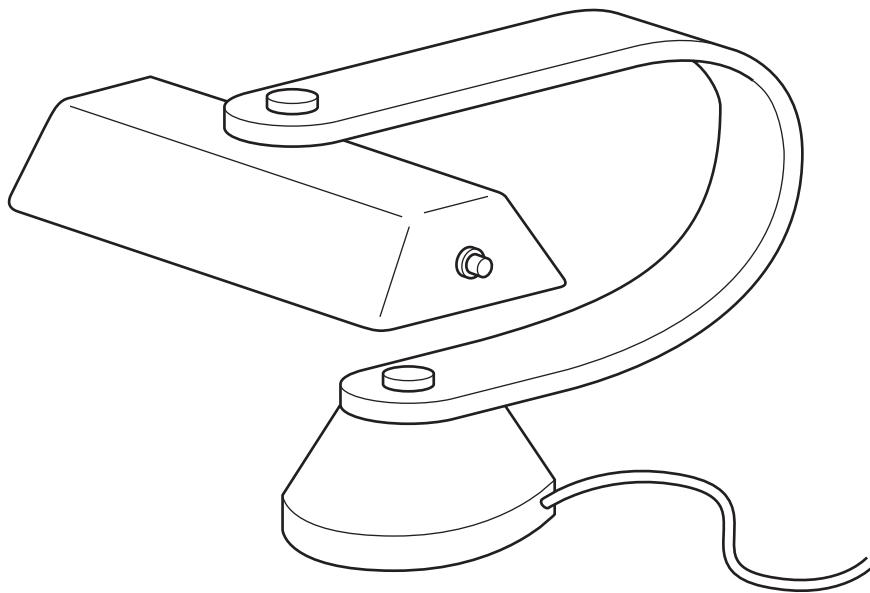

Fig. 8
Fig. 8 shows a desk lamp.
- (a) Give **four** design requirements for the desk lamp shown in Fig. 8.